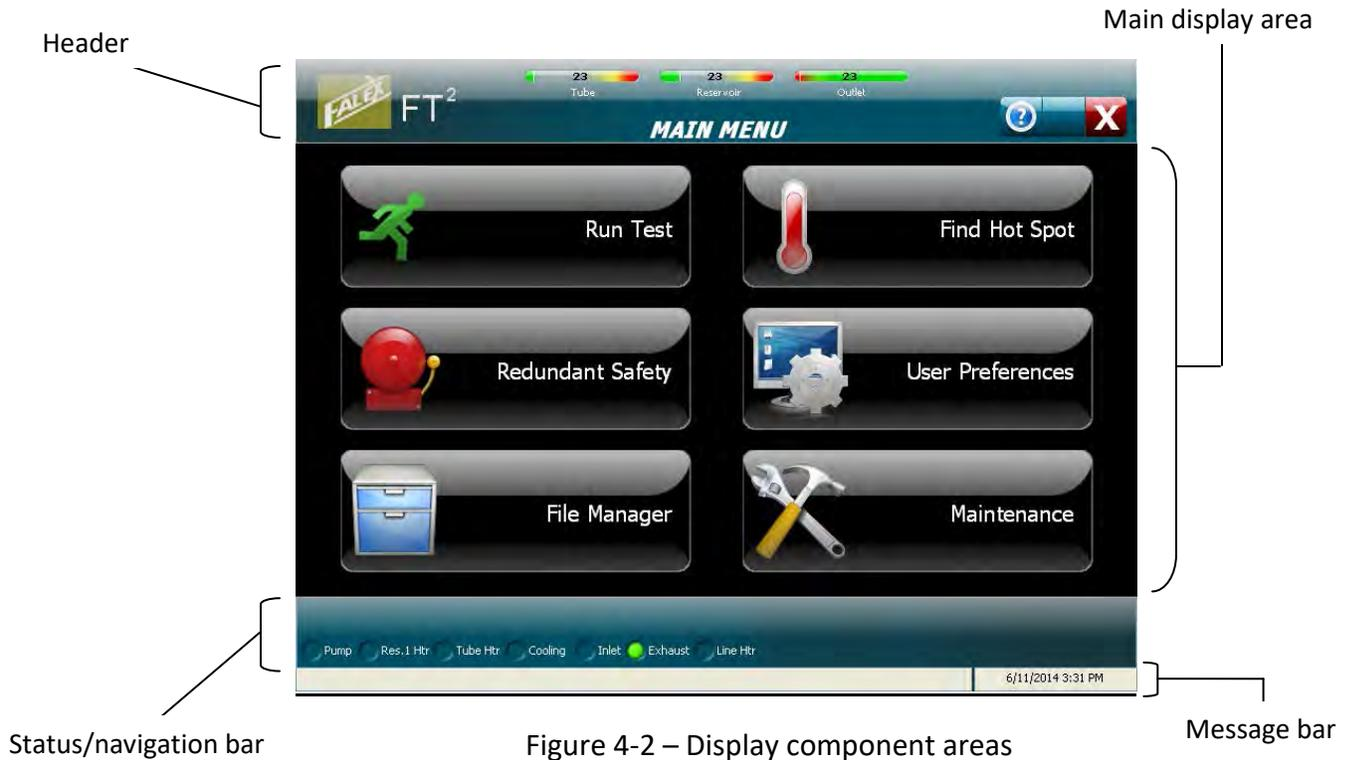

Figure 4-2 – Display component areas
The displays are made up of four (4) areas (figure 4-2), with each area having special functionality. The various display areas are: